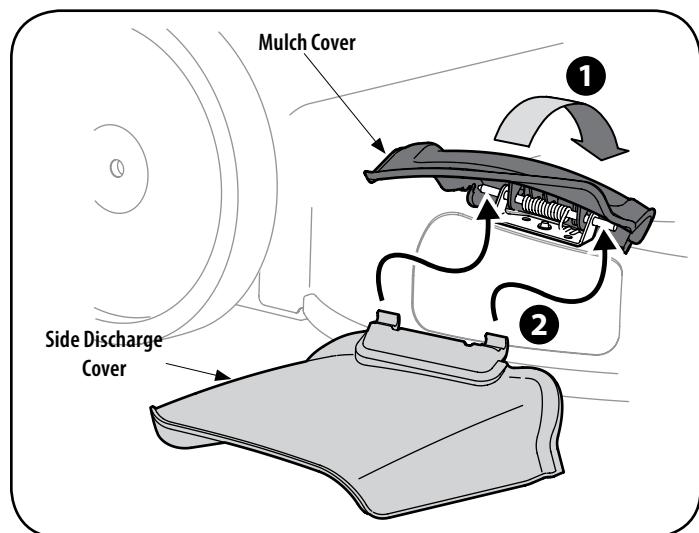

Figure 11
1. On the side of the mower, lift the mulch cover. See Figure 11.